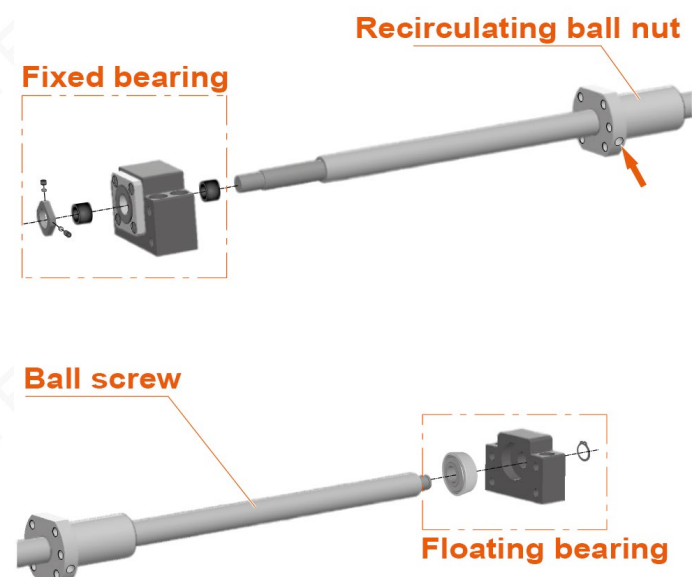

Fig. 2: Assembly of the grease nipples and spindle bearings. Do not mount the floating bearing unit of the X axis until installation (p. 11)!
- Equip all recirculating ball nuts with 90° angled grease nipples (see figure 2, red arrow). Do not fully tighten grease nipples yet so that you can align them later.